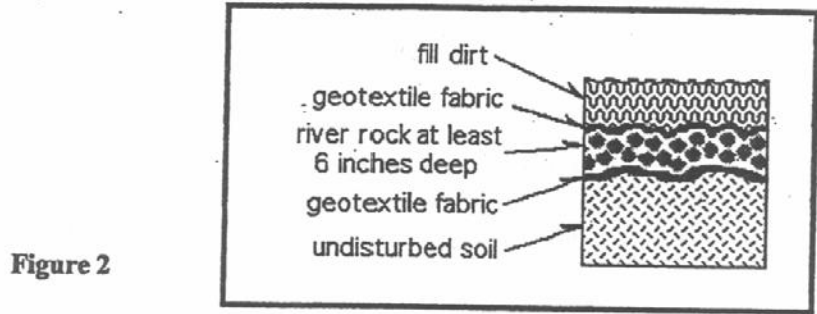

Figure 2
- An aeration system shall be installed in the area shown in figure 2 below prior to grading. The aeration system (see diagram below) shall consist of *geotextile* fabric laid on top of the undisturbed ground; with not less than six inches of river rock on top of it; and with a second layer of *geotextile* fabric laid on top of the rock.